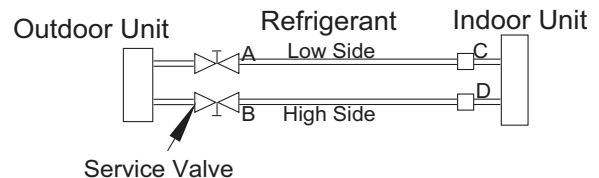

Fig. 28 - Service Valve
1. Completely tighten flare nuts A, B, C, D, connect manifold gage charge hose to a charge port of the low side service valve. (See Fig. 28.)